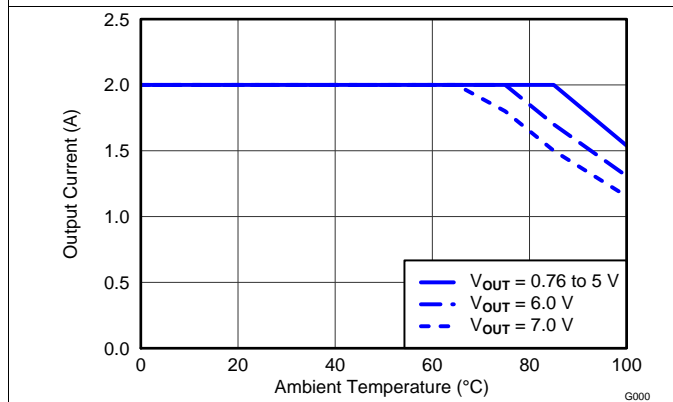

Figure 9. D Package Output Current vs Ambient Temperature
(1) D package, V_{OUT} > 5 V (see Figure 9 for temperature derating)